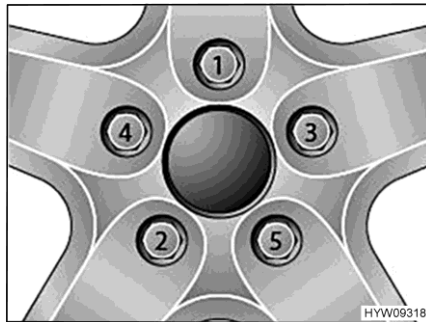

Fig. 143 Tightening the wheel nuts or wheel bolts cross-wise
- Tighten the wheel nuts or wheel bolts in the order shown in Fig. 143. In order to do this, use a torque wrench and comply with the specified tightening torque (see section 14.5).
- Check regularly that the wheel nuts or wheel bolts are firmly seated. Re-tighten the wheel nuts or wheel bolts of a changed wheel after 50 km (30 miles). While doing so, proceed in the order shown in Fig. 143.
- When using new or newly painted rims, re-tighten the wheel nuts or wheel bolts once again after approx. 1,000 to 5,000 km (600 miles to 3,000 miles). While doing so, proceed in the order shown in Fig. 143.